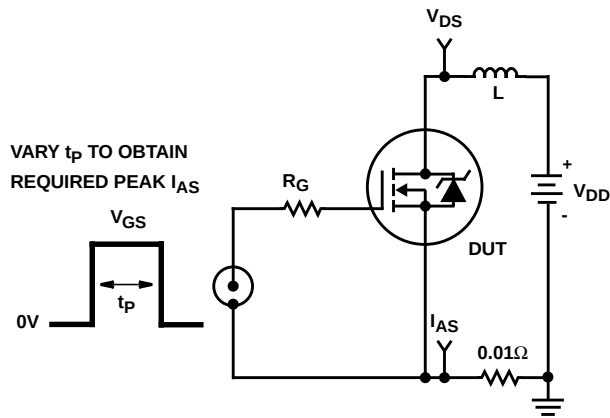

FIGURE 14. UNCLAMPED ENERGY TEST CIRCUIT
4. $V_{DD} = 25\text{V}$, starting $T_J = 25^\circ\text{C}$, $L = 440\mu\text{H}$, $R_G = 50\Omega$, $I_{PEAK} = 28\text{A}$. (See Figures 14 and 15).